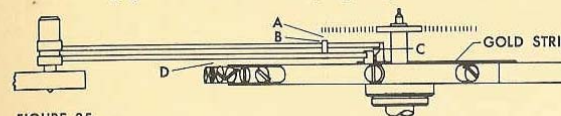
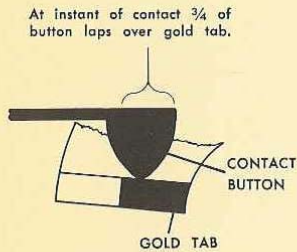
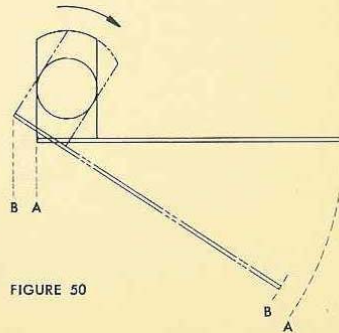

FIGURE 35
FIGURE 49
FIGURE 50
Step 2 *Check the contact and trip springs (fig. 35) for proper level and clearance as follows:*
Hold the watch with the stem to your left. The contact system and balance will then appear as illustrated in Fig. 35, page 65. Turn the balance counterclockwise to bring the contact button, Fig. 49, in contact with the gold tab. At the instant the button makes contact with the gold tab, stop the balance and observe how much of the button laps over the gold tab. At the instant of contact, $\frac{3}{4}$ to $\frac{7}{8}$ of the button should be over the gold tab as illustrated. If more than $\frac{7}{8}$ or less than $\frac{3}{4}$ of the button laps over the gold tab at this time, the post to which the contact spring is affixed must be turned to correct this condition. You will notice that the contact spring is affixed to the side of the post. See Fig. 50. Due to this, the turning of the post will give the same effect as that of shortening or lengthening the spring. In this illustration we show the effect of turning the post in a clockwise direction. Notice how the spring is moved back from position "A" to "B", thus giving the same effect as that of shortening the spring. Naturally the turning of the post counterclockwise will give the opposite effect.
This will decrease the penetration of the trip spring into the path of intersection of the trip jewel, and thereby cause the break in electrical contact to occur earlier. When turning the post counterclockwise, we will in addition be increasing the trip spring pressure. This must be corrected by bending the trip spring close to its post with tweezers. See Step 4. (Fig. 50 illustrates the effect of turning the contact or trip spring post.)